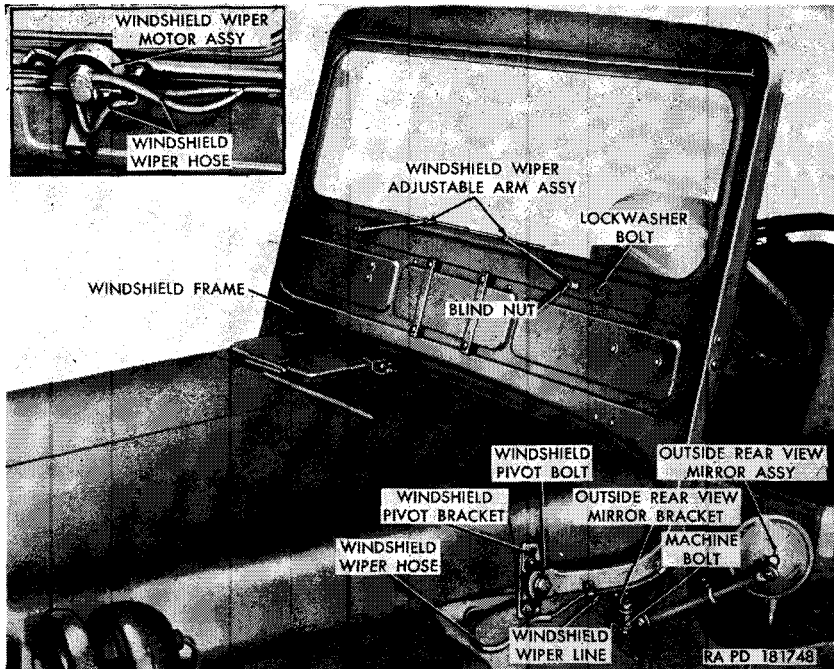

Figure 126. Windshield, windshield wiper motor assemblies, and outside rear view mirror assembly.
b. Removal. Pull the windshield wiper hose off the windshield wiper line (fig. 126) at each side of the vehicle. Unclamp the two windshield lock assemblies (N, fig. 7) and place windshield in lowered position. Unscrew the windshield pivot bolt (fig. 126) and remove the windshield pivot bolt flat washer and windshield pivot bolt spring washer from the windshield pivot bracket on each side of the vehicle. Lift the windshield off the vehicle.
c. Installation. Place the windshield, in the lowered position, over the hood and cowl. Aline the mounting holes in the windshield frame with the mounting holes in the windshield pivot bracket (fig. 126). Install a windshield pivot bolt flat washer on the windshield pivot bolt and push the pivot bolt through the mounting hole in the windshield frame. Install a windshield pivot bolt spring washer on the pivot bolt between the windshield frame and windshield pivot bracket. Screw the pivot bolt into the bracket and tighten. Repeat procedure on other side of vehicle. Raise the windshield and secure windshield lock assemblies (N, fig. 7) to
the two locking clamps on the windshield frame. Slide the windshield wiper hose onto the windshield wiper line (fig. 126) at each side of the vehicle.
(fig. 126)
b. Installation. Working inside the vehicle, insert the shaft of the windshield wiper motor paddle through the hole in the windshield frame. Push the windshield wiper hose onto the lines of the windshield wiper motor assembly. Working outside the vehicle, secure the windshield wiper motor to the windshield frame with two No. 10 x $\frac{7}{8}$ lockwasher bolts. Position the windshield wiper adjustable arm assembly on the projecting shaft with the windshield wiper blade parallel to the windshield frame as shown in figure 126. Secure the wiper arm to the motor shaft with a No. 10 blind nut. Start the engine and test windshield wipers for proper operation.